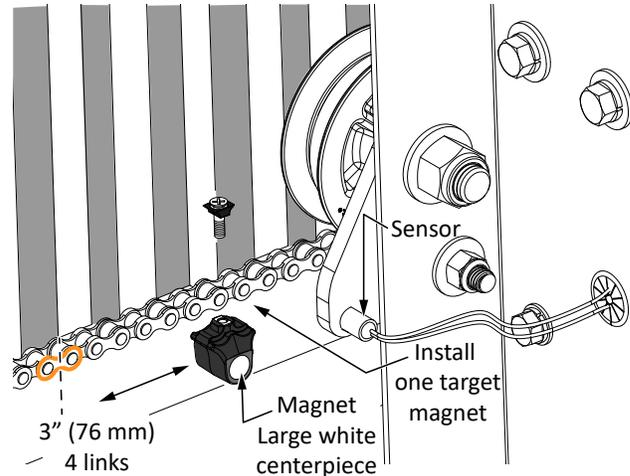

Figure 19. Installing Target Magnet
5. Fasten the target magnet to the chain link as shown in Figure 19. Make sure the large white centerpiece is facing toward the operator. Insert the screw and tighten it securely.
If "ALERT 15 - NO TARGET" appears on the display after the target magnet has been installed and a full gate cycle completed (steps 6 & 7), it means that the target magnet has not been detected by the operator. Check chain alignment and make sure the target magnet is positioned properly and passes across the face of the sensor. See Figure 19. Repeat steps 6 and 7.